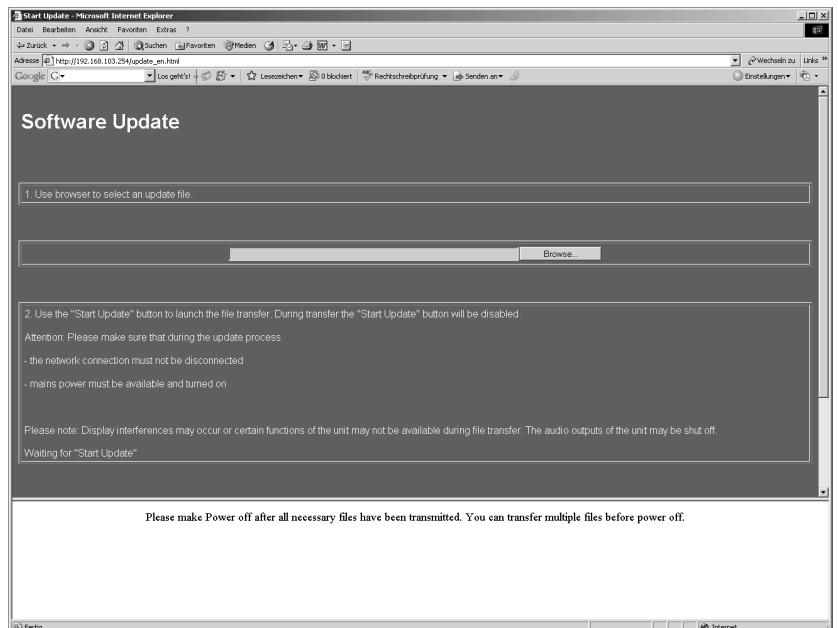

Fig. 8-10: End of the data transfer of the selected file
8. The download is finished when the message "Please make power off after all necessary files have been transmitted. You can transfer multiple files before power off" is displayed (see Fig. 8-10). Please do **not** switch off the SurroundControl units but proceed with step 9.
9. Use the displayed dialog (see Figs. 8-10 and 8-5) to select (Browse ...) the **second** of the four update files.
10. Use the displayed dialog (see Figs. 8-10 and 8-5) again to select ("Durchsuchen") the **third** of the four update files.